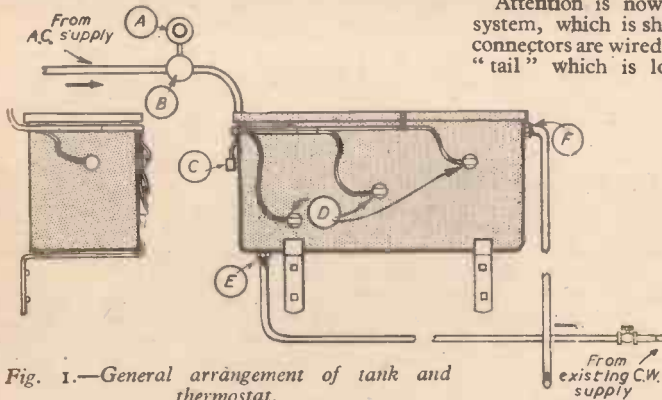

Fig. 1.—General arrangement of tank and thermostat.
While the cement is drying, the tank can be prepared, the parts fitted and the tank tested for leaks. Start by cutting out the holes for the elements (D) and the thermostat sheath (C) located as shown in Fig. 1. Where the tank differs in shape the main points to observe are that the elements are placed in steps above and to the right of each other; except at the mounting stub, the elements must not touch the tank at any point; the upper element must be well under water when the outflow has stopped; the thermostat shield is located approximately 4in. below water-level at the far end from the hot-water outlet. Should an element be encountered at this depth, go deeper to ensure that the body of the water is adequately heated before "cut-off" occurs.